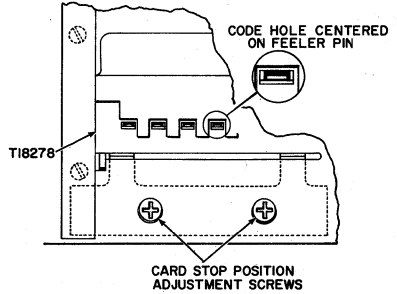

Figure 30
8. Move the gauge so the front column of code holes is over the reader pins, manually cycle the reader so the pins are up and position the gauge as shown in Figure 30, centered front to rear on the pins. Raise the card release lever so the card stops are up, position them so they touch the front edge of the gauge and tighten the adjustment screws. Cycle the reader to home position and remove the gauge.